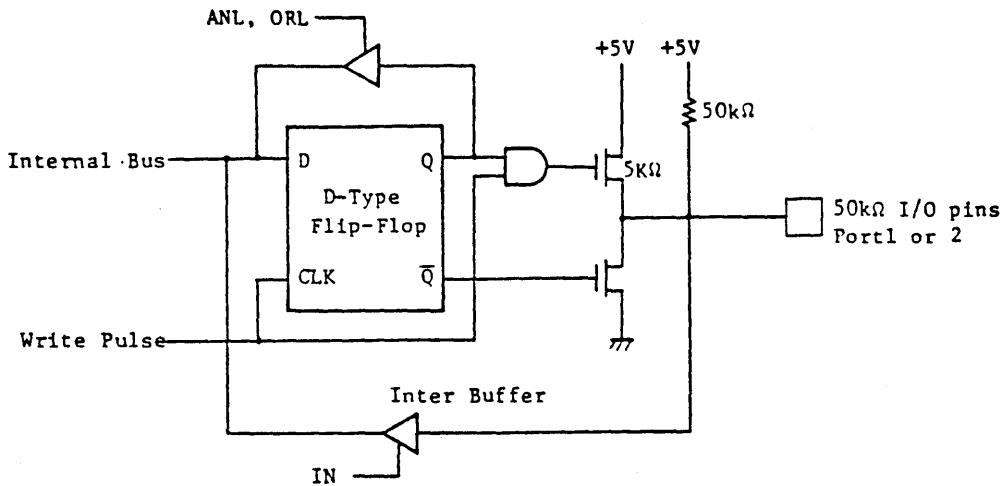

Fig.1 Input/Output Circuit of Port 1, Port 2
- (3) Input/Output Ports
- . All lines of Ports 1 and 2 are called quasi-bidirectional because of a special output circuit structure (illustrated in Figure 1). Each line is continuously pulled to a +5V level through a high impedance resistive device (50kohm) which is sufficient to provide the source current for a TTL high level yet can be pulled low by a standard TTL gate thus allowing the same pin to be used for both input and output. In order to speed up the "0" to "1" transition a low impedance device (5kohm) is switched in momentarily whenever a "1" is written to line. When "0" is written to line a low impedance device overcomes the pullup and provides TTL current sinking capability.